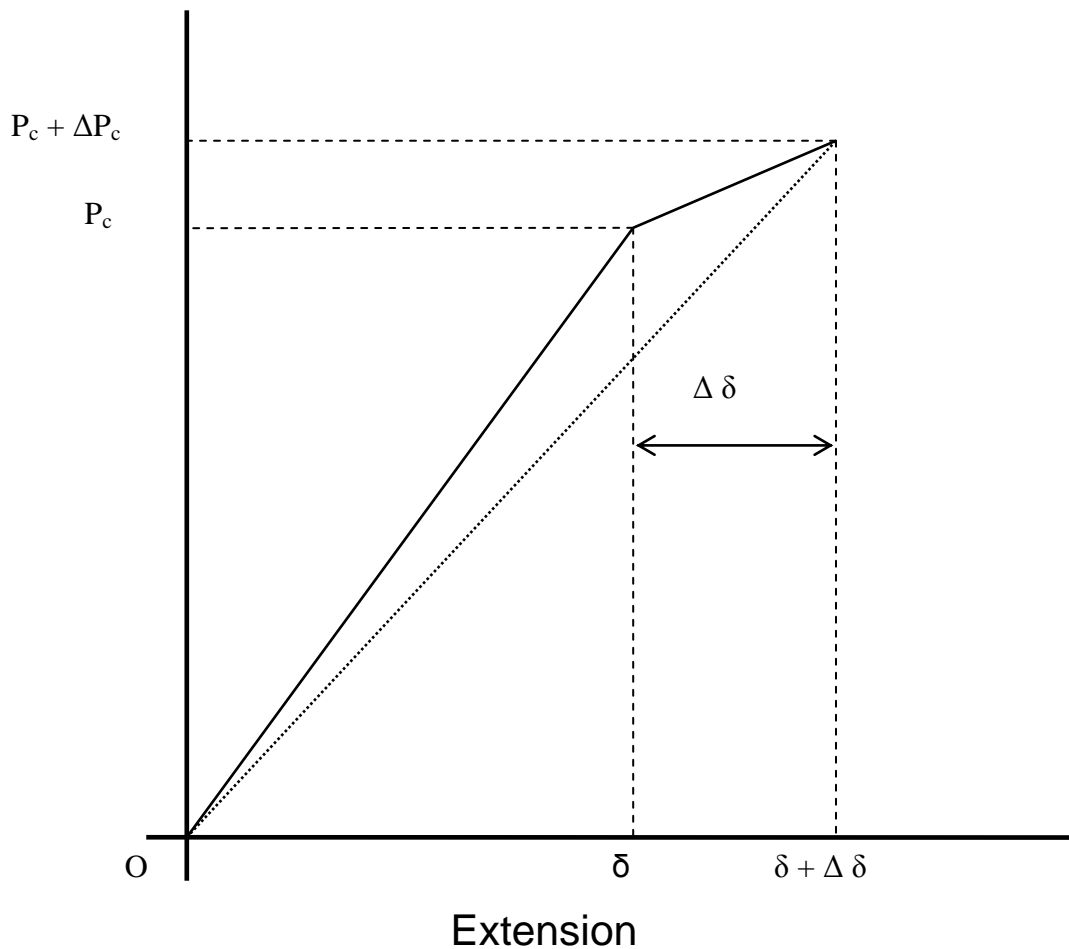

Figure 1
(b) Based on Irwin-Kies Relationship and Figure 1, indicate that strain energy release rate (G) is